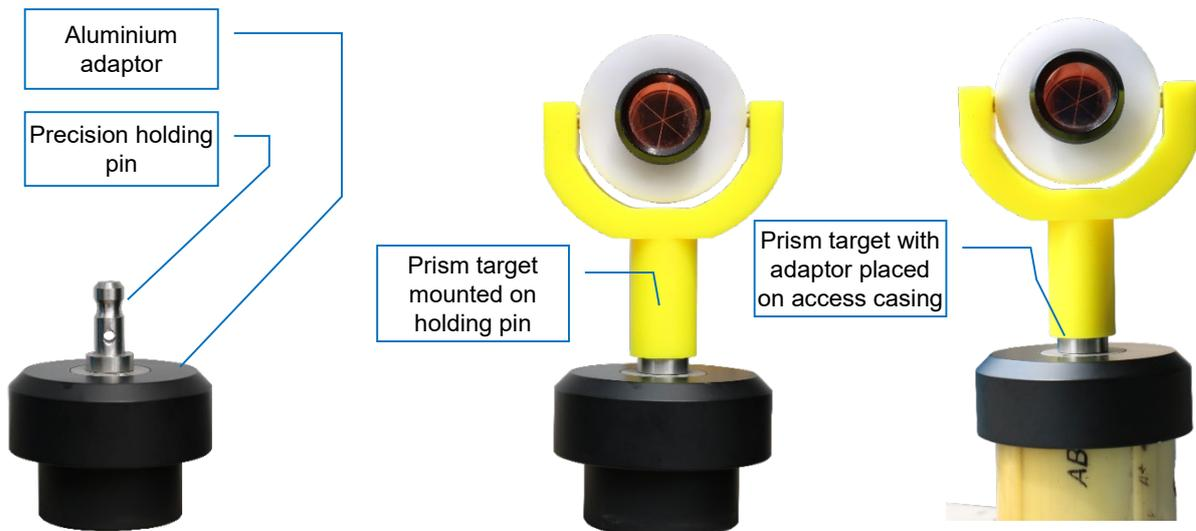

Figure 3-1 Prism adapter for inclinometer casing
- Determine initial Northing (X) and Easting (Y) positions of casing top by surveying after the casing is set. An aluminium adaptor with holder pin (suitable for inclinometer casing EAN-AT-70) with ERT-10P2 prism target is available for taking X-Y coordinates. Refer to figure 3-1 for details.